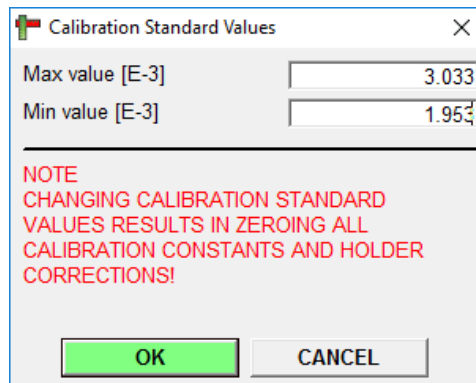

Figure 12: A print-screen of the Calibration Standard Values window.
1. Go to:   to launch the  window (Figure 12).